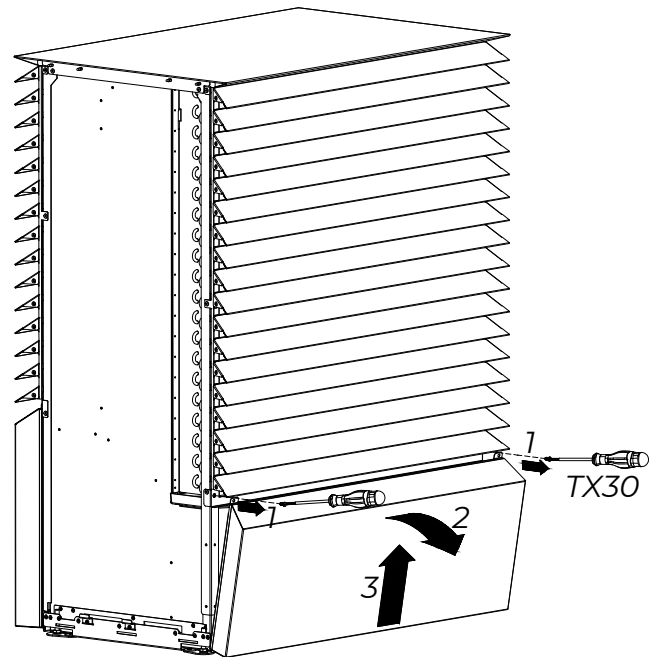

Figure 10: Removing the cover
Use a screwdriver (TX30) to remove the 2 screws on the underside of the cover's back (1) (Figure 10). Remove the cover by first bending it forward (2) and then lifting it (3) (Figure 10).